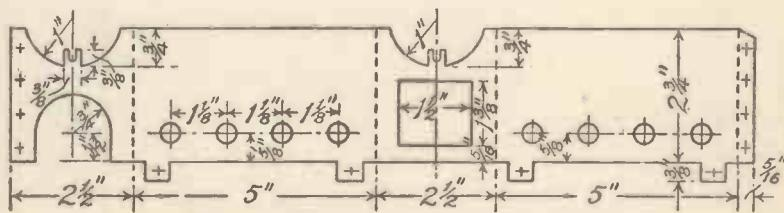
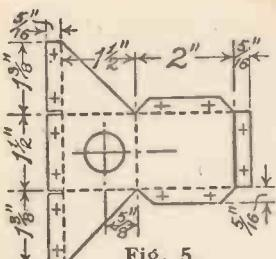

Fig. 4.—How to mark out the Firebox.
Fig. 5.
Figs. 5 and 6.—How to mark out and assemble the Chimney Support.
**Firebox.**—Take the piece of tinplate and carefully mark it out to the dimensions given in Fig. 4. Drill the ventilation holes, and cut away the other parts with a small cold chisel and hammer. Finish the edges down to the scribed lines with a file and then drill  $\frac{1}{16}$ -in. rivet holes along each end where indicated. In each bottom lug drill a  $\frac{1}{8}$ -in. hole. Bend the firebox to shape on the dotted lines and then rivet the overlapping edges together with copper-wire rivets. The four fixing lugs at the bottom can be bent outwards and the two lugs at the top, where the boiler rests, are to be bent inwards. For the chimney support, cut out a blank from a piece of tinplate to the shape and sizes given in Fig. 5 and drill  $\frac{1}{16}$ -in. rivet holes at the points indicated. Bend to shape on the dotted lines, and rivet together with short pieces of copper wire. Push the chimney support in place from inside the firebox,